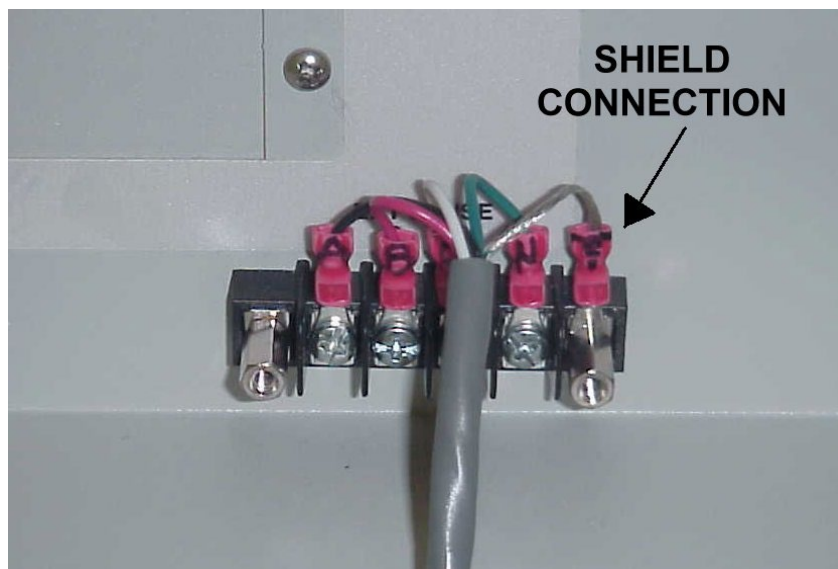

Figure 3-5: External Sense Cable Shield Connection to Chassis Ground
The external sense inputs allow the power system output voltages to be monitored directly at the load and must be connected at TB2 when the sense is programmed for external. The external sense input does not have to be connected when Internal Sense is programmed. The external sense wires are to be connected to TB2 on the rear panel and should be run using a twisted shielded cable. See Figure 3-4 for location of TB2 and Figure 3-5 for shield connection detail.
**NOTE:**     ***For External Sense connection, a shielded cable MUST be used with the shield connected to chassis ground at the Ext. Sense connector. (See Figure 3-5).***